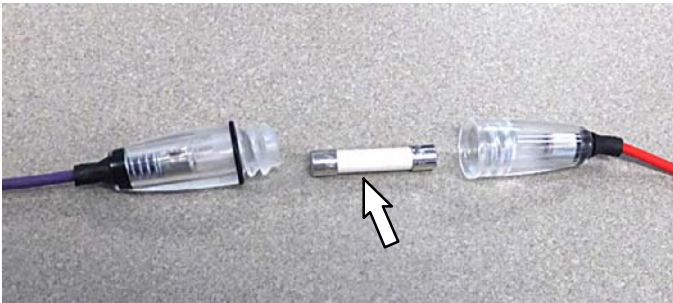

FIG. 34
20. Reinstall fuse into telemetry harness (FIG. 34).